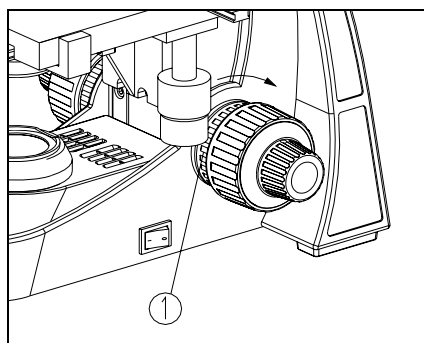

Fig.11
If the handle is very heavy when focusing or the specimen leaves the focus plane after focusing, or the stage declines itself, rotate the tension adjustment knob① to resolve the problem (See Fig. 11).